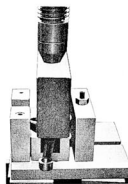

Fig. 4-16-16
- 5) Place the tool for press (2) on the crank web, and press the crank downward, with a hand press, until the tool (2) contacts the tool (6). The final press load on the crank is 5-8 tons. (Fig. 4-16-16)